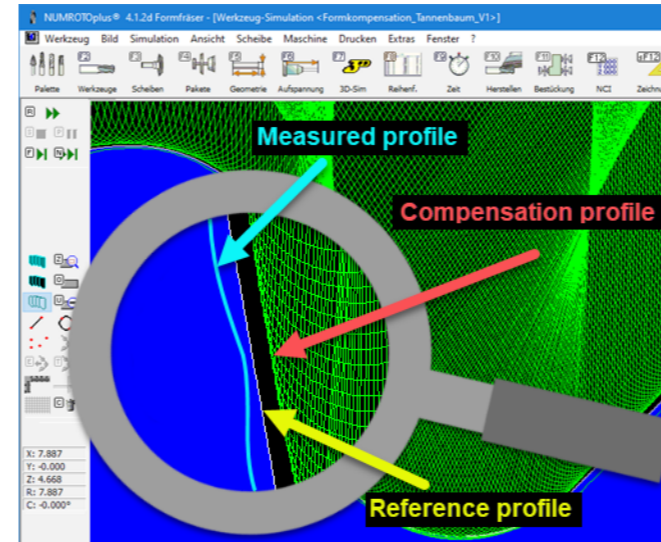

Figure 3: Nominal profile-measured profile-compensation profile.
- Thanks to the best possible filtering of the measured profile a very steady course of compensation is achieved. This filtering is clearly visible in Figure 3: Two clear "outliers" can be seen in the measured profile. These are filtered out in the compensation profile.